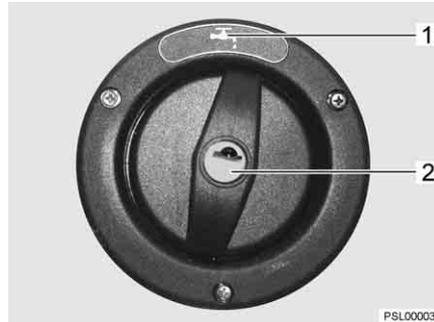

Fig. 231 Cap for the drinking water filler neck
The drinking water filler neck is indicated by the symbol "☞" (Fig. 231,1). The cap is open and closed using the key for the external flap locks.
- Insert key into locking cylinder (Fig. 231,2) and turn a quarter turn in an anticlockwise direction.